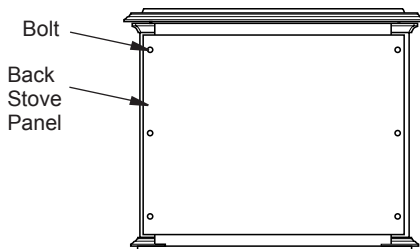

Figure 6 - Removing Back Panel (Amity™ Only)
5. **Amity Only:** Remove back panel from stove and discard (see Figure 6). Use an adjustable wrench or a 10 mm socket. Remove six (6) bolts and washers. Keep bolts and washers to reattach rear cover.